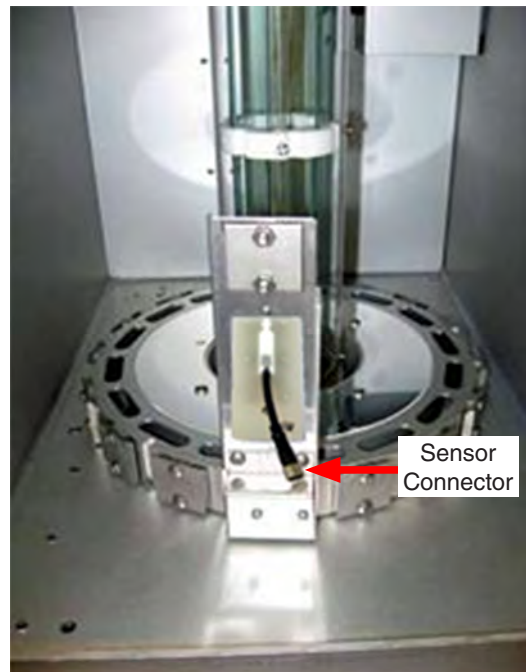
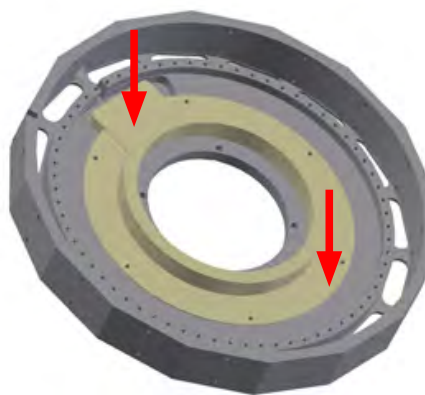

Figure 8.1c: Panel temperature sensor connector (disconnected).
Figure 8.1e: Secondary contactless panel temperature data link (mounted on bottom of turntable).
- The sensor connects to a contactless data transmission system located under the turntable (Figure 8.1c through Figure 8.1e).